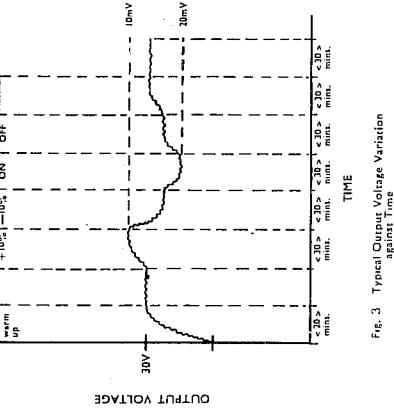

Fig. 3 Typical Output Voltage Variation against Time
- Fig. 3 shows typical output variations caused by mains change and load change plotted against time.
See next page for fig. 3